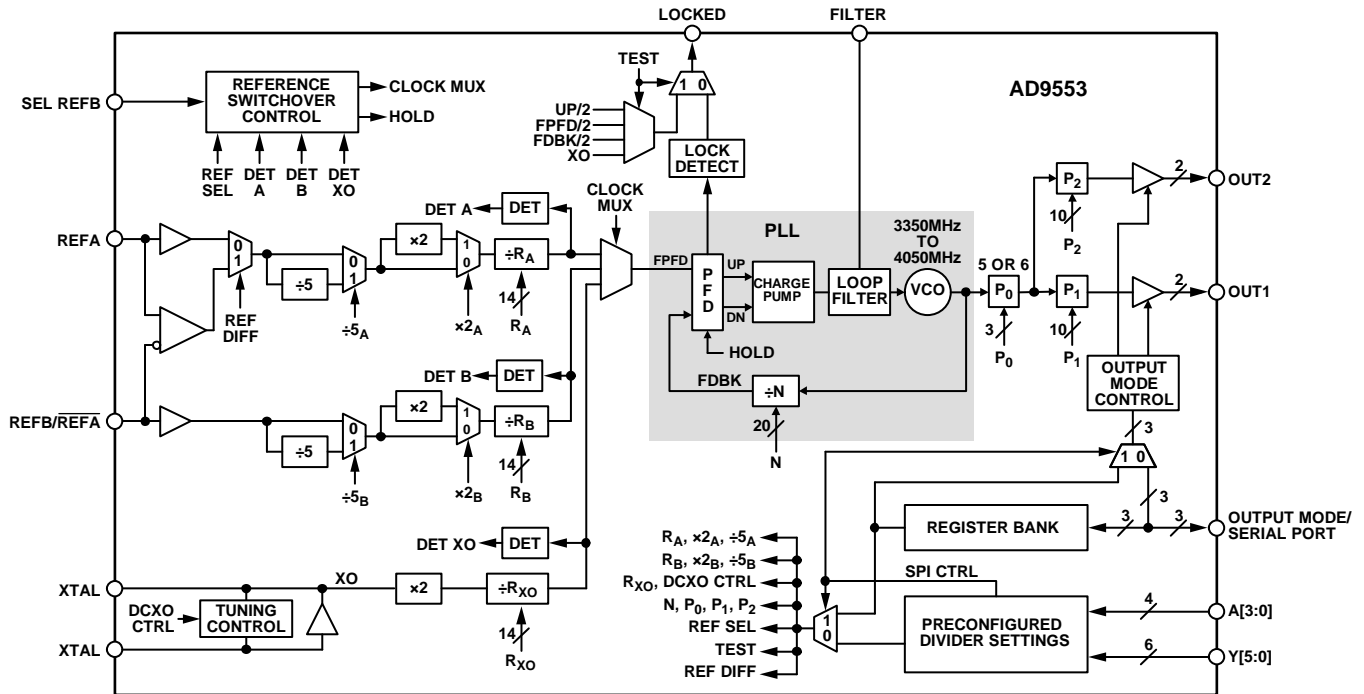
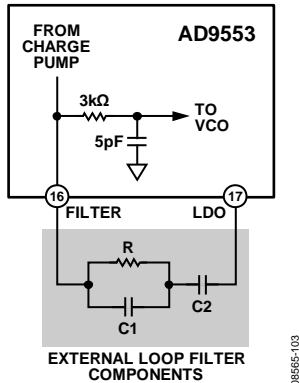

Figure 20. Detailed Block Diagram
Figure 22. External Loop Filter
Generally, the clock signals that appear at the input to the clock multiplexer (see Figure 20) all operate at the same frequency. Thus, the frequency at the input to the PLL (FPFD in Figure 20) is the same regardless of the signal selected by the clock multiplexer. The PLL converts FPFD to a frequency within the operating range of the VCO (3.35 GHz to 4.05 GHz) based on the value of the feedback divider (N). The VCO prescaler (P₀) reduces the VCO output frequency by a factor of either 5 or 6,
The PLL (see Figure 20) consists of a phase-frequency detector (PFD), a partially integrated analog loop filter (see Figure 22), an integrated voltage-controlled oscillator (VCO), and a 20-bit programmable feedback divider. The PLL generates a 3.35 GHz to 4.05 GHz clock signal based on the frequency of PFD (see Figure 20) and the feedback divider value, which is phase-locked to the input reference signal.
The charge pump in the PFD delivers current to the loop filter (see Figure 22). The main components of the loop filter are external and connect between Pin 16 and Pin 17. Note that to achieve the best jitter performance in applications requiring a loop bandwidth of less than 1 kHz, C1 and C2 must have an insulation resistance of at least 500 Ω F.